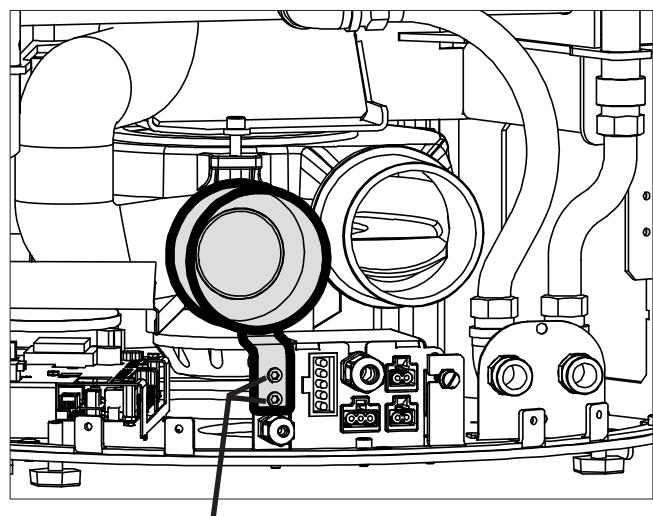

Fig.2b Screws combustion air duct
- Unscrew the combustion air duct (Fig.2b).